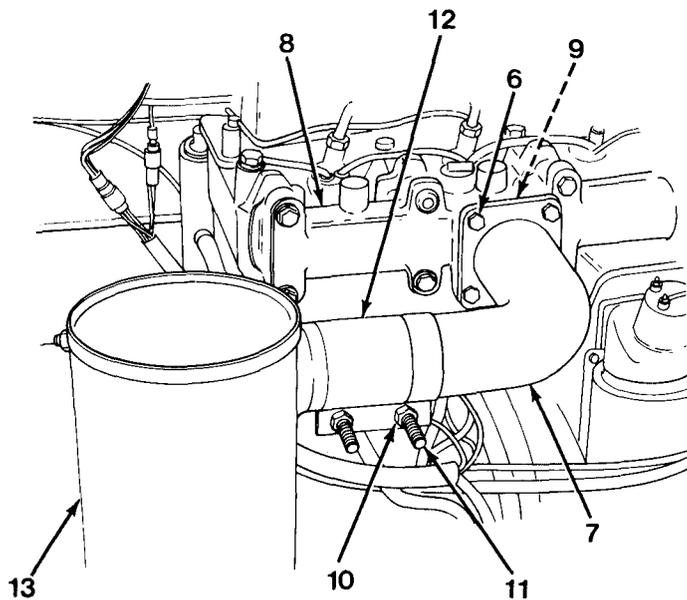
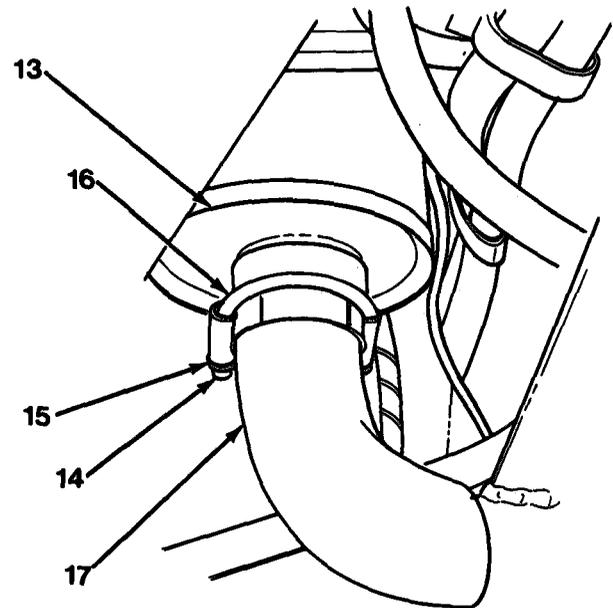

Figure 8-2
Figure 8-3
3. Remove four capscrews (6) securing exhaust tube (7) to exhaust manifold (8, Figure 8-2).
4. Remove gasket (9). Remove all gasket material from mounting surfaces.
6. Remove two nuts (10), capscrews (11) and clamp (12) from muffler (13) and exhaust tube (7).
7. Remove two nuts (14), washers (15), clamp (16) and exhaust tube (17) from end of muffler (13, Figure 8-3).
- Install exhaust tube (17) to end of muffler (13) with clamp (16), two washers (15) and nuts (14, Figure 8-3). Do not tighten at this time.
- Position complete exhaust system in vehicle. Tighten two nuts (14, Figure 8-3).